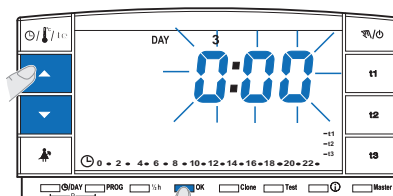

fig. 5
- If, however, you want to select another program (fig. 5), quickly press the **PROG** key (or keys \blacktriangle \blacktriangledown) until the display shows the desired program (P02 winter or P03 summer), then press **OK**.